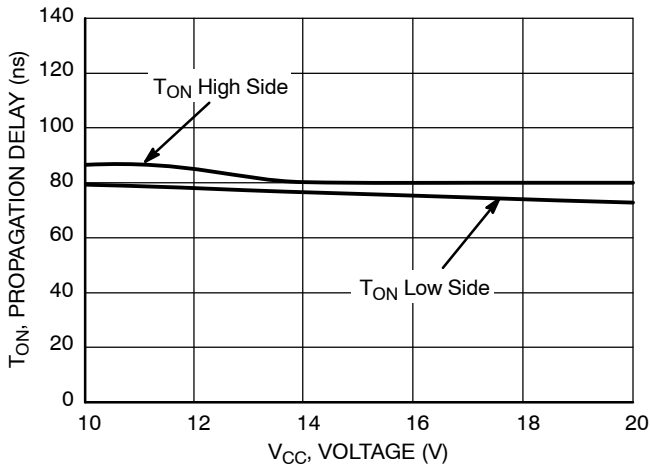

**Figure 10. Input/Output Cross Conduction Output Protection Timing Diagram (B Version)**
- Version B integrates a dead time in order to prevent any cross conduction between  $DRV\_HI$  and  $DRV\_LO$ . See timing diagram of Figure 10.